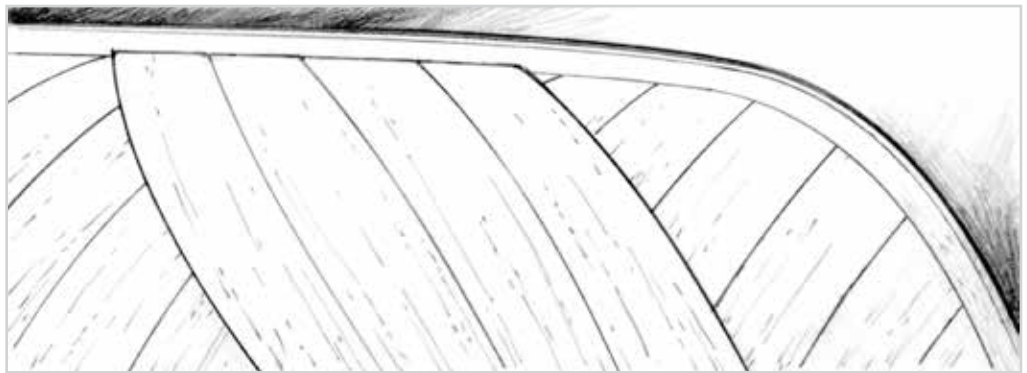

Figure 5-22 Bond the second layer of veneers in the opposite diagonal to the first layer.
5. Repeat the process on the second layer (Figure 5-22). Begin with the first veneer about midpoint at a 35° diagonal in the opposite direction to the first layer. Trim and bond the remaining veneers.